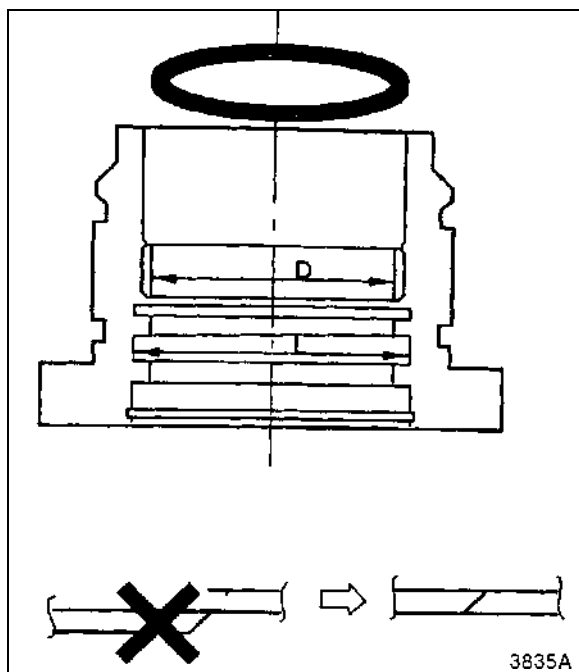

Figure 16
2. Install split backup ring into its groove by compressing ring. See Figure 16. Make sure that ends of ring do not overlap.